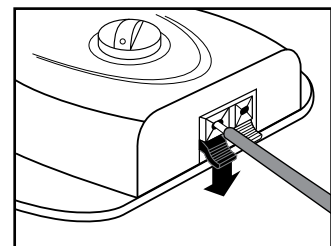

figure 6
- Insert the other end of the Boundary Wire into the red tab on the bottom of the Base Transmitter by pulling back the red tab. (fig. 6)